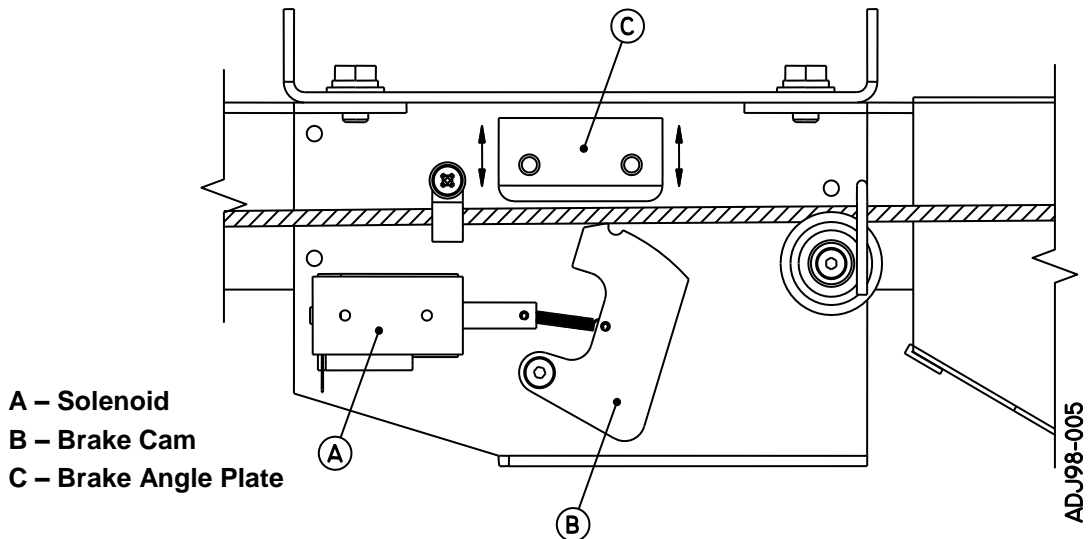

Figure 2-4, Pin Brake Assembly
- Adjust the clamping pressure by loosening the two screws that secure the brake angle plate to the assembly and moving the plate up to decrease or down to increase the clamping pressure (see Figure 2-4). Try to maintain the original angle of the plate and only move it a small amount. Tighten the screws.